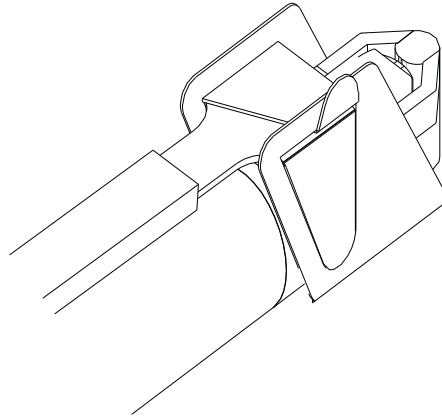

Figure 3-2, *Splash Guard Tab*
| Figure 3-2, Splash Guard Tab..... | 3-2 |
3. Close lever and place around sealer head. Insert tab into the splash guard opening on opposite side. See Figure 3-2, Splash Guard Tab.